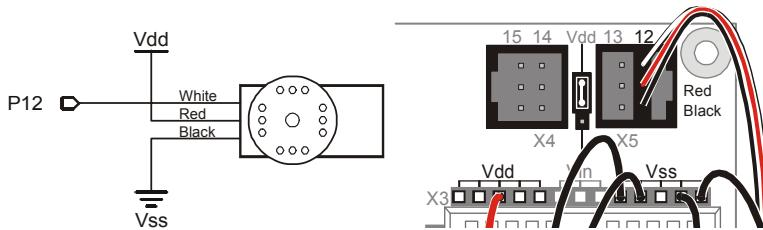

Figure 4-10
- (1) 3-pin header
- (3) jumper wires
- ✓ If you are using the Board of Education Rev C, refer to Figure 4-10. Set the jumper between the servo ports to Vdd, then plug the servo into the P12 Servo Port with the red and black leads lined up with the labels on the board.